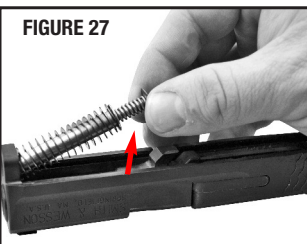

FIGURE 27
- Remove the recoil spring from below the barrel (FIGURE 27).